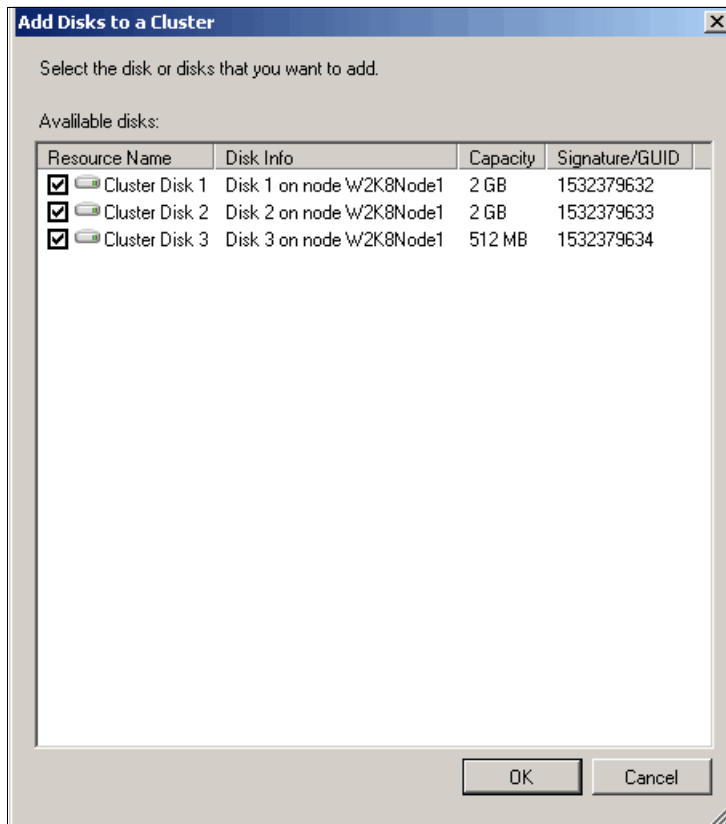
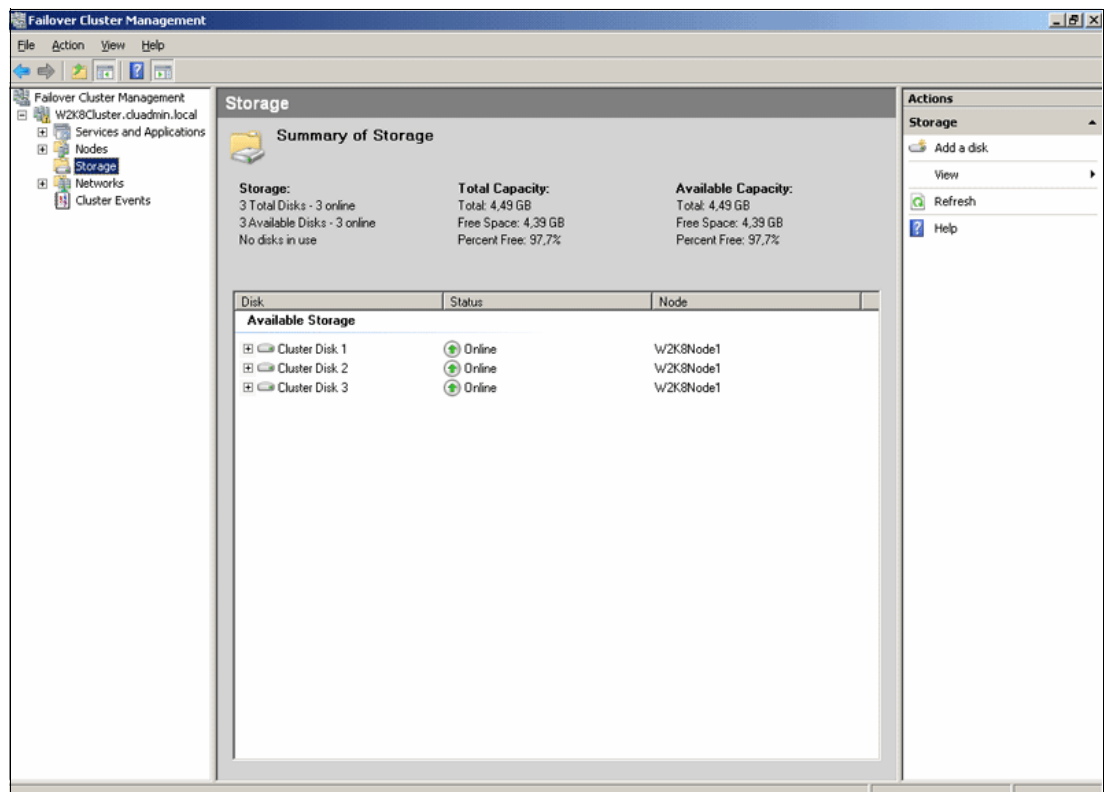

Figure 19-20 Add Disk Resources
Figure 19-21 Summary of Storage
2. Select the **Available Disk** resources to add to the cluster as shown in Figure 19-20 on page 573 and click **OK** to launch the summary window as shown in Figure 19-21 on page 573.